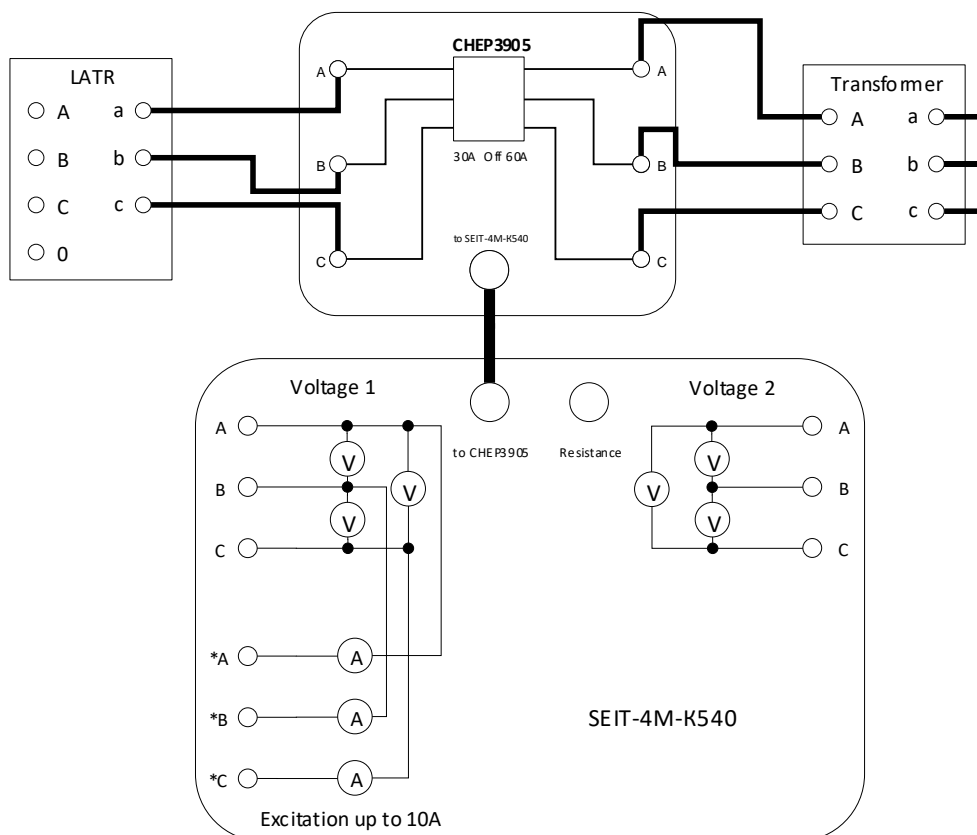

Fig. 19. Connection Circuit for Short Circuit Test using CTU.
5.4.2. When using the CTU, assemble the circuit shown in Fig.19.